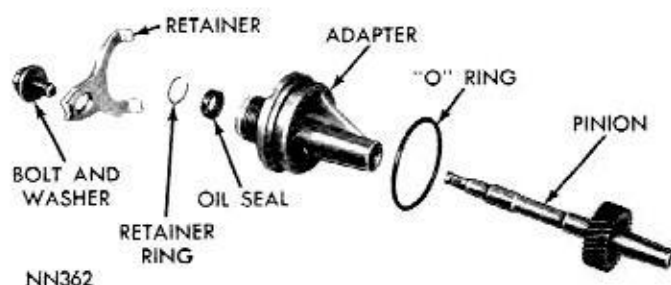
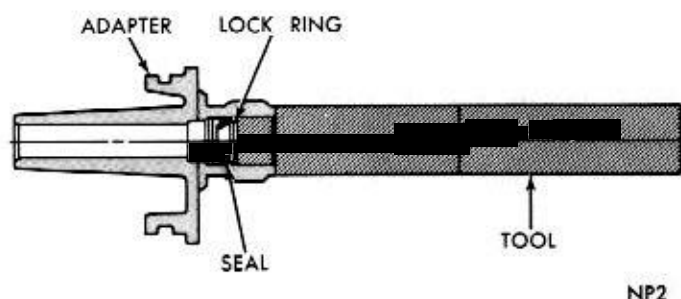

Fig. 9—Speedometer Pinion and Adapter—Disassembled
Fig. 10—Installing Speedometer Pinion Seal
(4) If transmission fluid is found in cable housing, replace seal in the adapter (Fig. 9). Start seal and retainer ring in adapter, then push them into adapter with Tool C-4004 until tool bottoms (Fig. 10).
(5) Note number of gear teeth and install speed-
ometer pinion gear into adapter (Fig. 9).